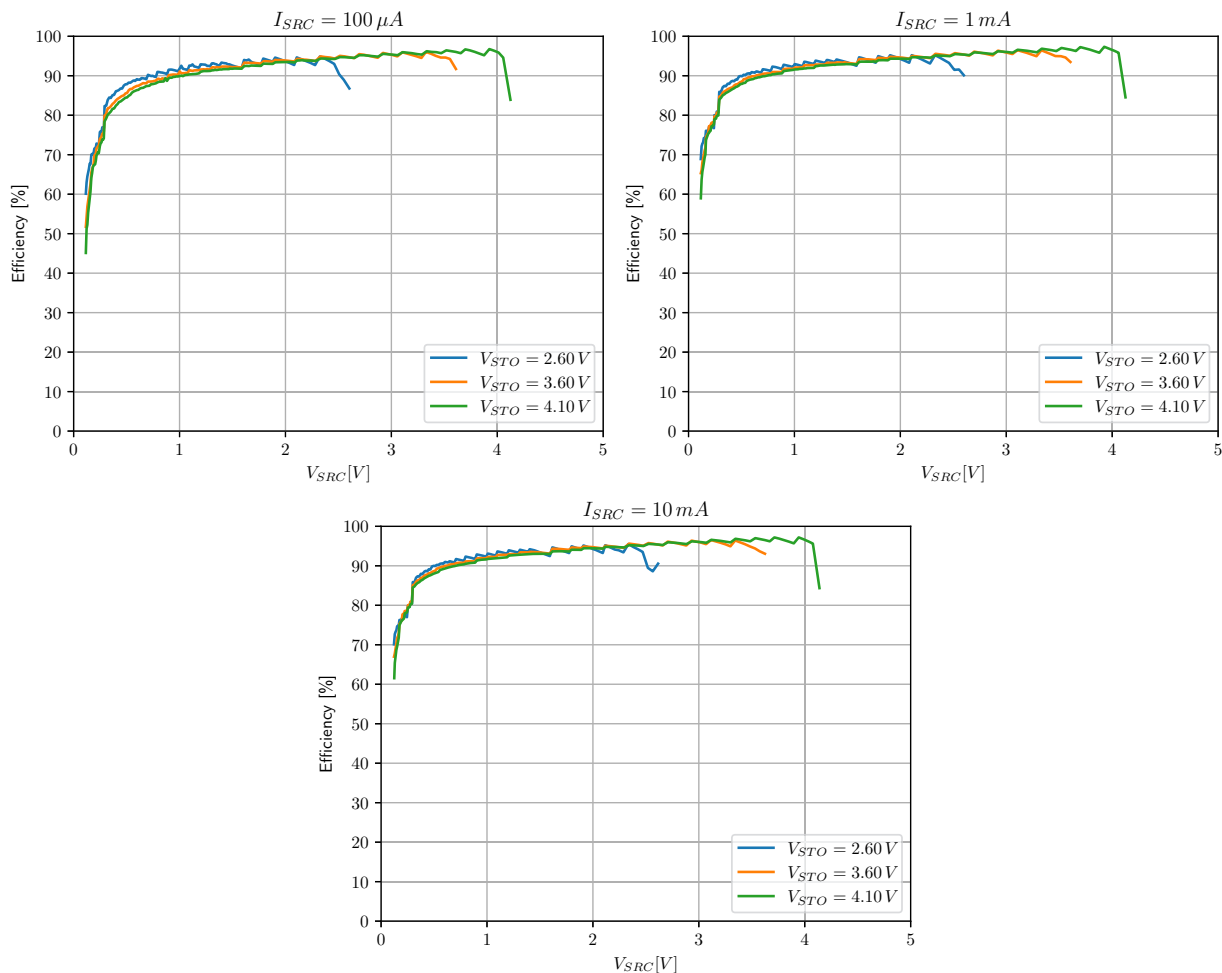

Figure 7: Boost converter efficiency with $L_{BOOSTx} = 33 \mu H$ (Coilcraft LPS4018-333MRB), $BSTxCFG.TMUL T = 0x02$ (x3)
- Optional: a device able to act as an I²C master and send I²C commands to the AEM13920. Only useful when testing settings that are not accessible through the configuration pins, such as boost timings. Please note that, the results shown on Figure 7 are with x3 boost timing, which is the default value when not configuring the AEM13920 through the I²C registers, but must be configured if the I²C is used.